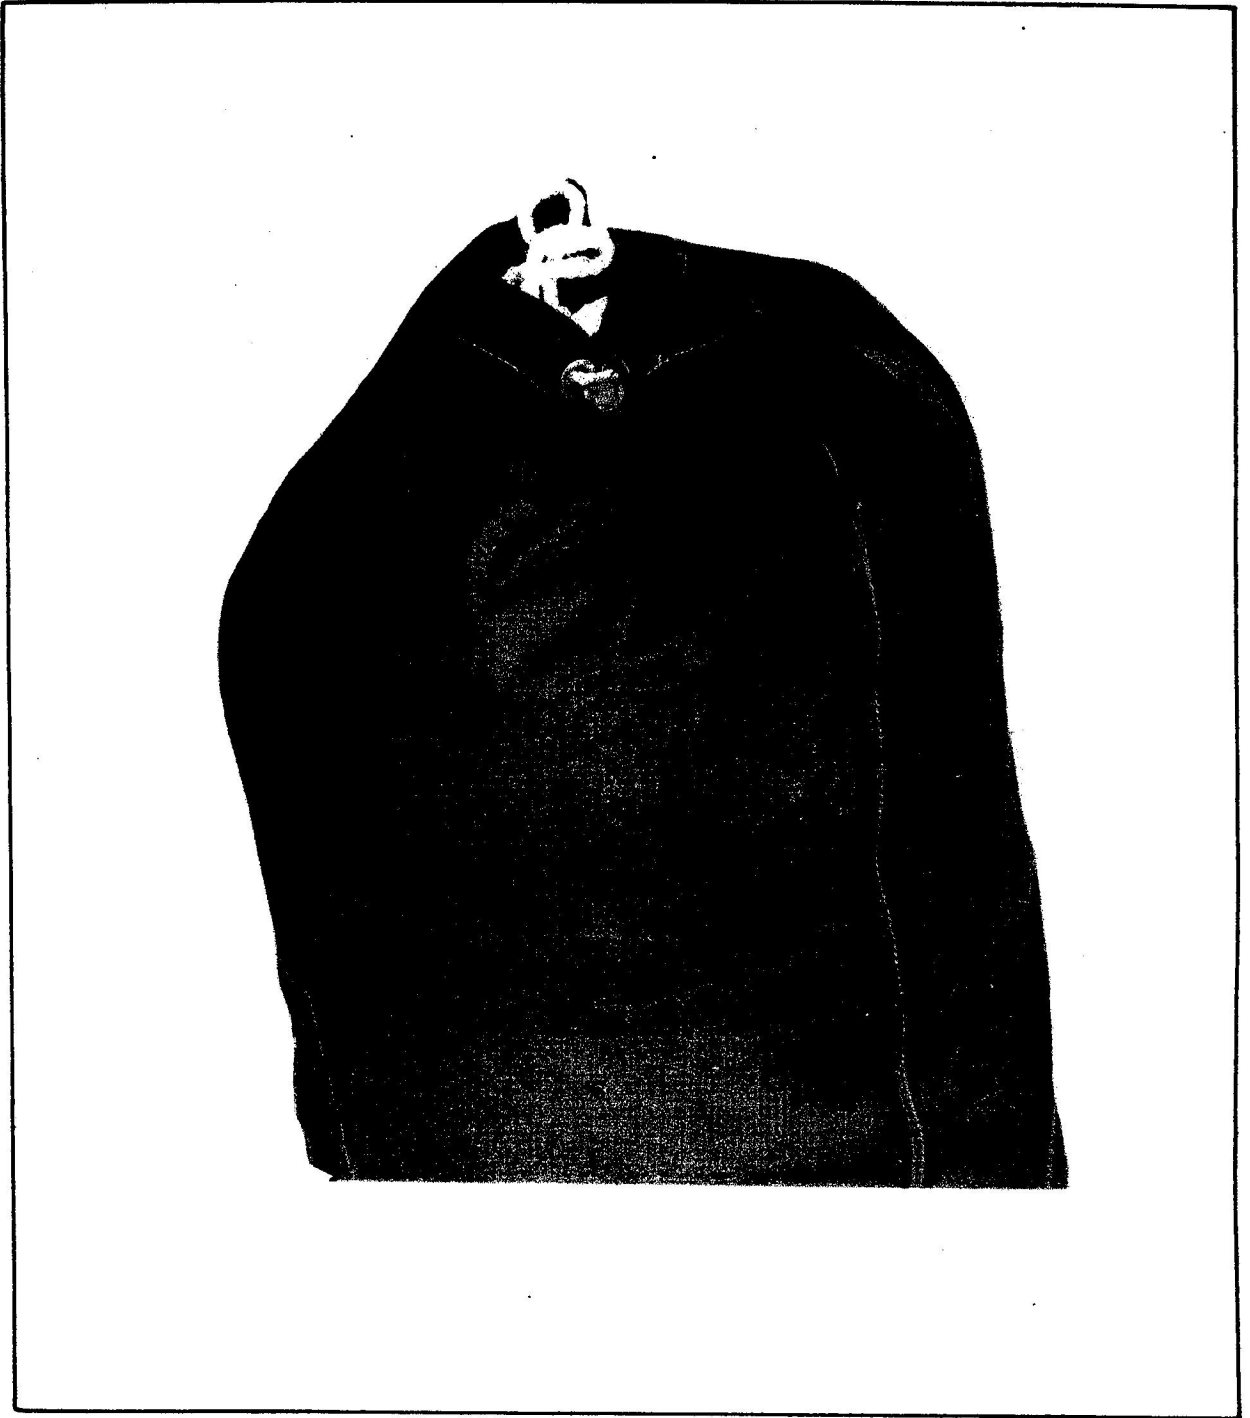

Figure 4 Sealing of Survival Sleeping Kit
(d) The survival kit inland winter and arctic contents are packed in a container bag held closed with a draw string and is sealed by threading wire locking through the grommet holes and using presses sealing and dies lettered, seal both ends of the wire with a lead seal as shown in Figure 4.
- (1) Check sleeping kit for serviceability and correct contents.
- (2) Tighten draw string on neck of bag and secure.
- (3) Thread wire locking through grommet holes and using presses sealing and dies lettered, seal both ends of wire with lead seal as shown in Figure 4.